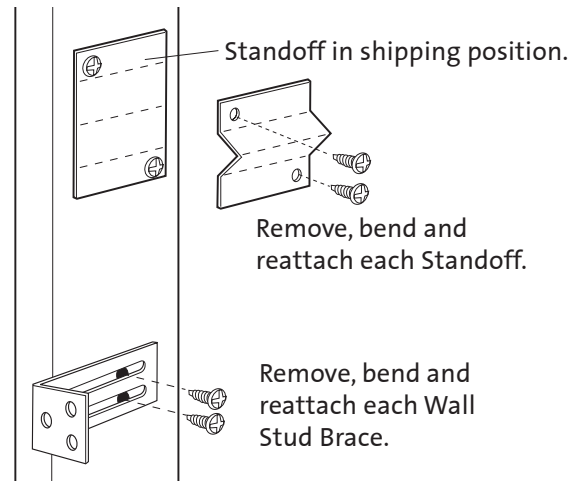

Figure 24. Standoff and Stud Brace orientation.
1. **Side Standoffs:** Remove the retainer screws. Using vise grips or pliers, fold each standoff at the perforations. Secure each standoff using the screws previously removed. See fig. 24.
2. **Wall Stud Brace:** Loosen, bend, and position each cabinet Retainer Strap for attachment to the fireplace enclosure. See fig. 24.